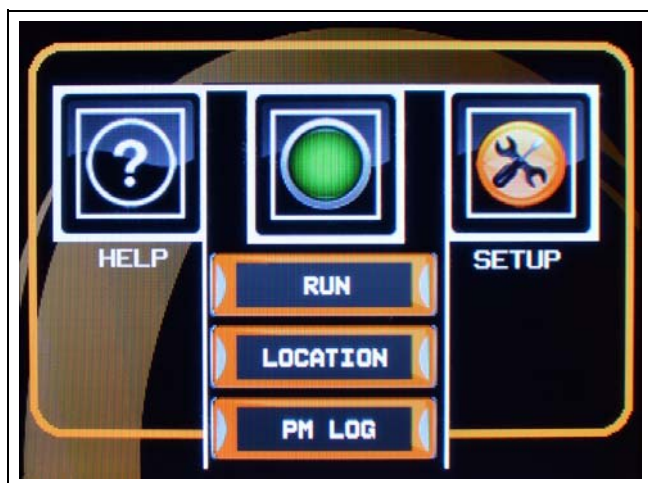

Figure 10C
- From the **Run Menu**, press the green run icon. (See Figure 10C.)